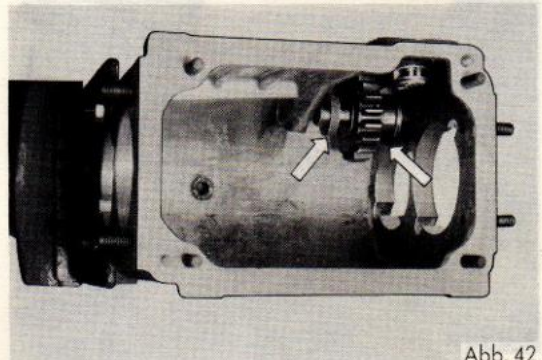
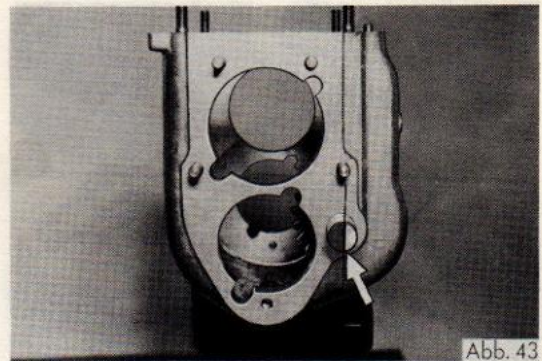

Abb. 42
Abb. 43
34. Drive in reverse gear spindle, fitting reverse gear pinion so that the guide slot for the fulchrum plate faces the output end. Fit thrust washer on spindle and drive spindle to within the casing (Fig.42). Locate the spindle accurately as it is locked against turning by the tail housing (Fig.43).